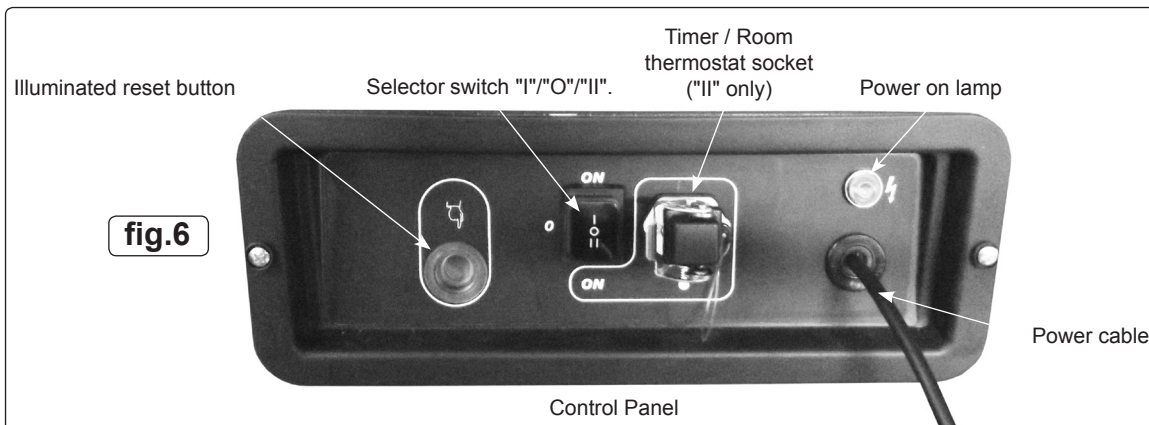

fig.6
NOTE: Always place on a flat, stable and level surface and check the electrical supply conforms to the data on the model plate. It is preferable to start the heater outdoors for the first time to allow any oils left over from the manufacturing process to be burnt off safely; run it for 10 minutes on this first burn. On first starting or if the heater is started after the oil tank has been emptied; the flow of oil to the burner may be impaired by air in the circuit. In this case the automatic digital control system will cut out ("safety lockout system") the heater and it might be necessary to renew the starting procedure by depressing the reset button on the control panel (fig.6). This button will illuminate; wait two minutes before resetting. Repeat if necessary.
5.1.3. Plug the power cord into a suitable power socket, indication of power will be shown by the power light illuminating in fig.6. If using an extension lead see Section 1.1.11.